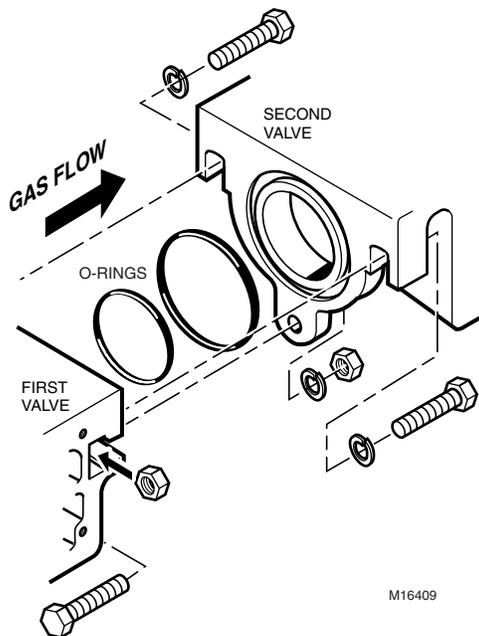

Fig. 5. Connecting two valves in series.
Connecting Two Valves in Series (Fig. 5)
5. Assemble the first valve to the second valve using the three bolts, nuts and lock washers as shown in Fig. 5.